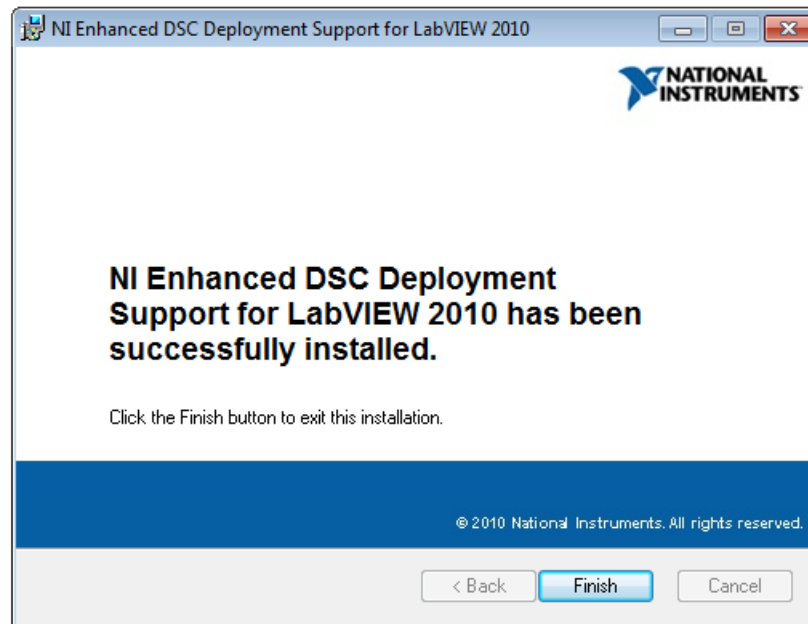

Figure 33. LabVIEW RTE Installation Complete
7. The *LabVIEW RTE Installation Complete* window (Figure 33) appears, indicating the completion of the LabVIEW 2010 RTE installation. Click the *Finish* button.